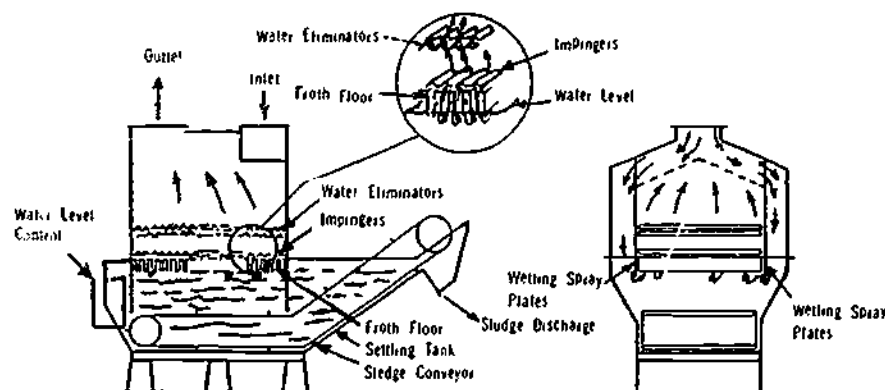

Figure 11-9. Self-Cleaning Wet Collector
**Wet Impingement Scrubbers** Dust-laden air is wetted and then cleaned by passing through a series of spray zones and an impingement process. Figure 11-9 shows a typical self-cleaning wet collector. Immediately on entering the collector, the gas is divided into two main longitudinal streams to descend to the initial collection-induced spray section. As it passes through this section, the gas is finely divided, wetted and partially cleaned because of the relative positions of the spray plates and the settling tank water-level. The partially cleaned gas then passes through a froth floor section, where the highest proportion of dust is removed. The gas is further divided in this section as it passes once again through a controlled depth of water at a lower pre-determined speed than in the pre-collection stage. The gas finally passes through water eliminator plates located above the froth floor. The plant's collection efficiency can be varied by simple adjustment of the automatically-maintained water level.